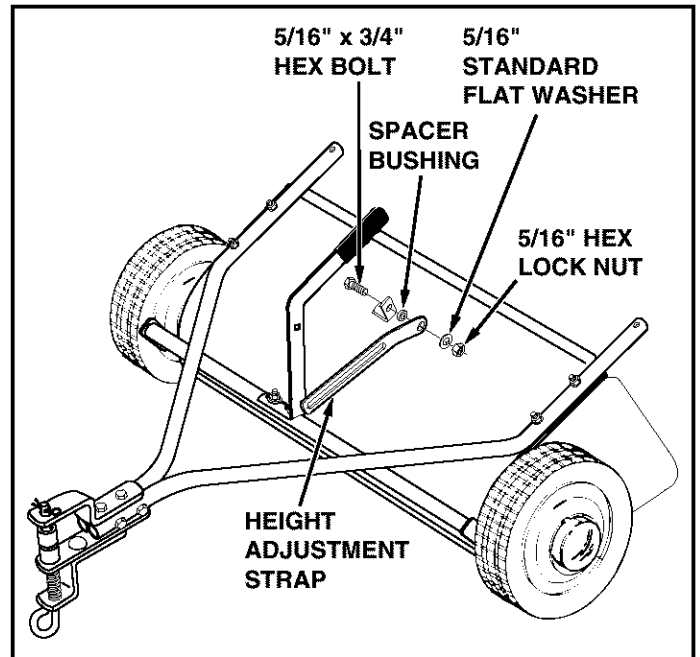

FIGURE 7
- Insert a 5/16" x 3/4" hex bolt through the angle bracket. Assemble onto the bolt (in order) the spacer bushing, the height adjustment strap, a 5/16" standard flat washer and a 5/16" hex lock nut. **Tighten.** See figure 7.